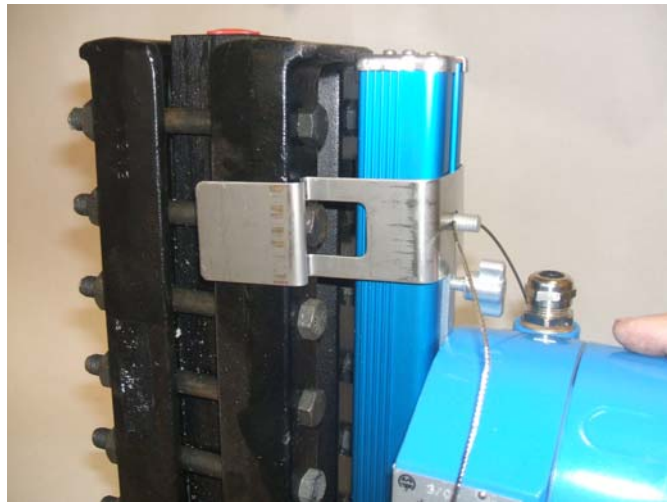

Figure 3
**Step 2:** Press EFI LeveLite™ assembly against rear of gauge as shown in Figure 3, aligning the bracket cutouts over the gauge bolt heads as shown. Align the brackets with the 2nd set of bolts in from each end of the gage, when possible. Note that all one-section size 7 models and smaller will require the power supply to be remote mounted.